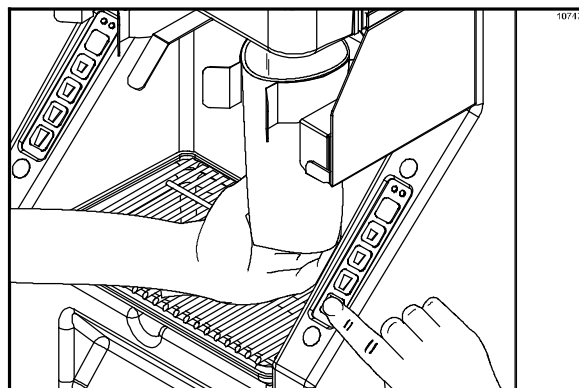

Figure 25
2. Draw a large (22 oz.) drink from each side of the dispenser to initiate the cooling system. Discard the product. (See Figure 25.)